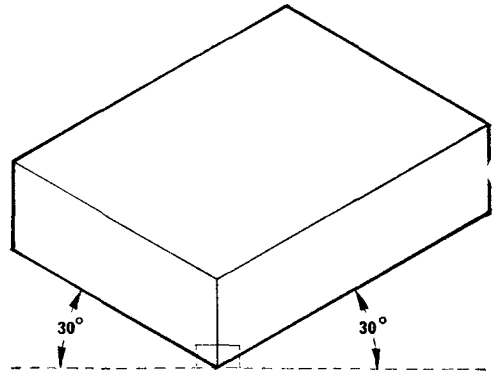

Fig. 2. Isometric lines
5. **Isometric projection.** This is a form of pictorial view used when an object is basically rectangular in shape. More complex shapes are difficult to draw and are liable to appear distorted. Fig. 2 shows a rectangular block drawn isometrically showing that all isometric lines are at 30° or 90° to the horizontal.